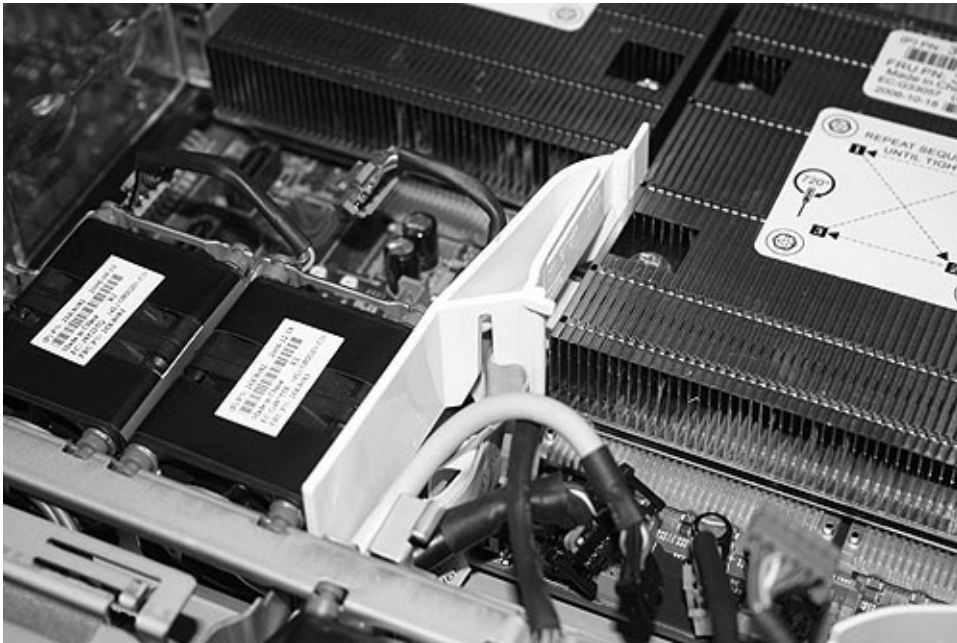

Figure 300. Connectors on the right front side of the SAN Volume Controller 2145-8G4 system board
10. Reconnect the light path ribbon cable connector and the CD-RW ribbon cable connector, as shown in Figure 300 on page 299.